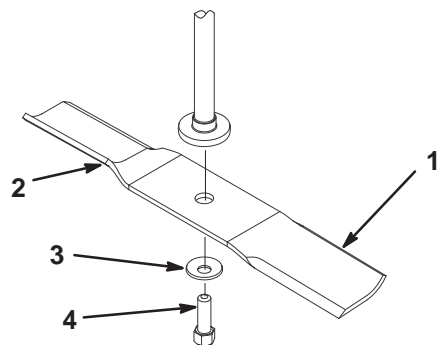
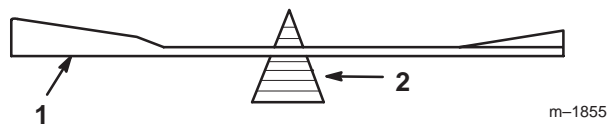

Figure 27
Figure 29
Hold the blade end using a rag or thickly-padded glove. Remove the blade bolt, curved washer, and blade from the spindle shaft (Fig. 27).
2. Check the balance of the blade by putting it on a blade balancer (Fig. 29). If the blade stays in a horizontal position, the blade is balanced and can be used. If the blade is not balanced, file some metal off the end of the sail area only (Fig. 27). Repeat this procedure until the blade is balanced.
1. Install the blade onto the spindle shaft (Fig. 27).
2. Install the curved washer (cupped side toward the blade) and blade bolt (Fig. 27). Torque the blade bolt to 35–65 ft.-lb. (47–88 N·m).